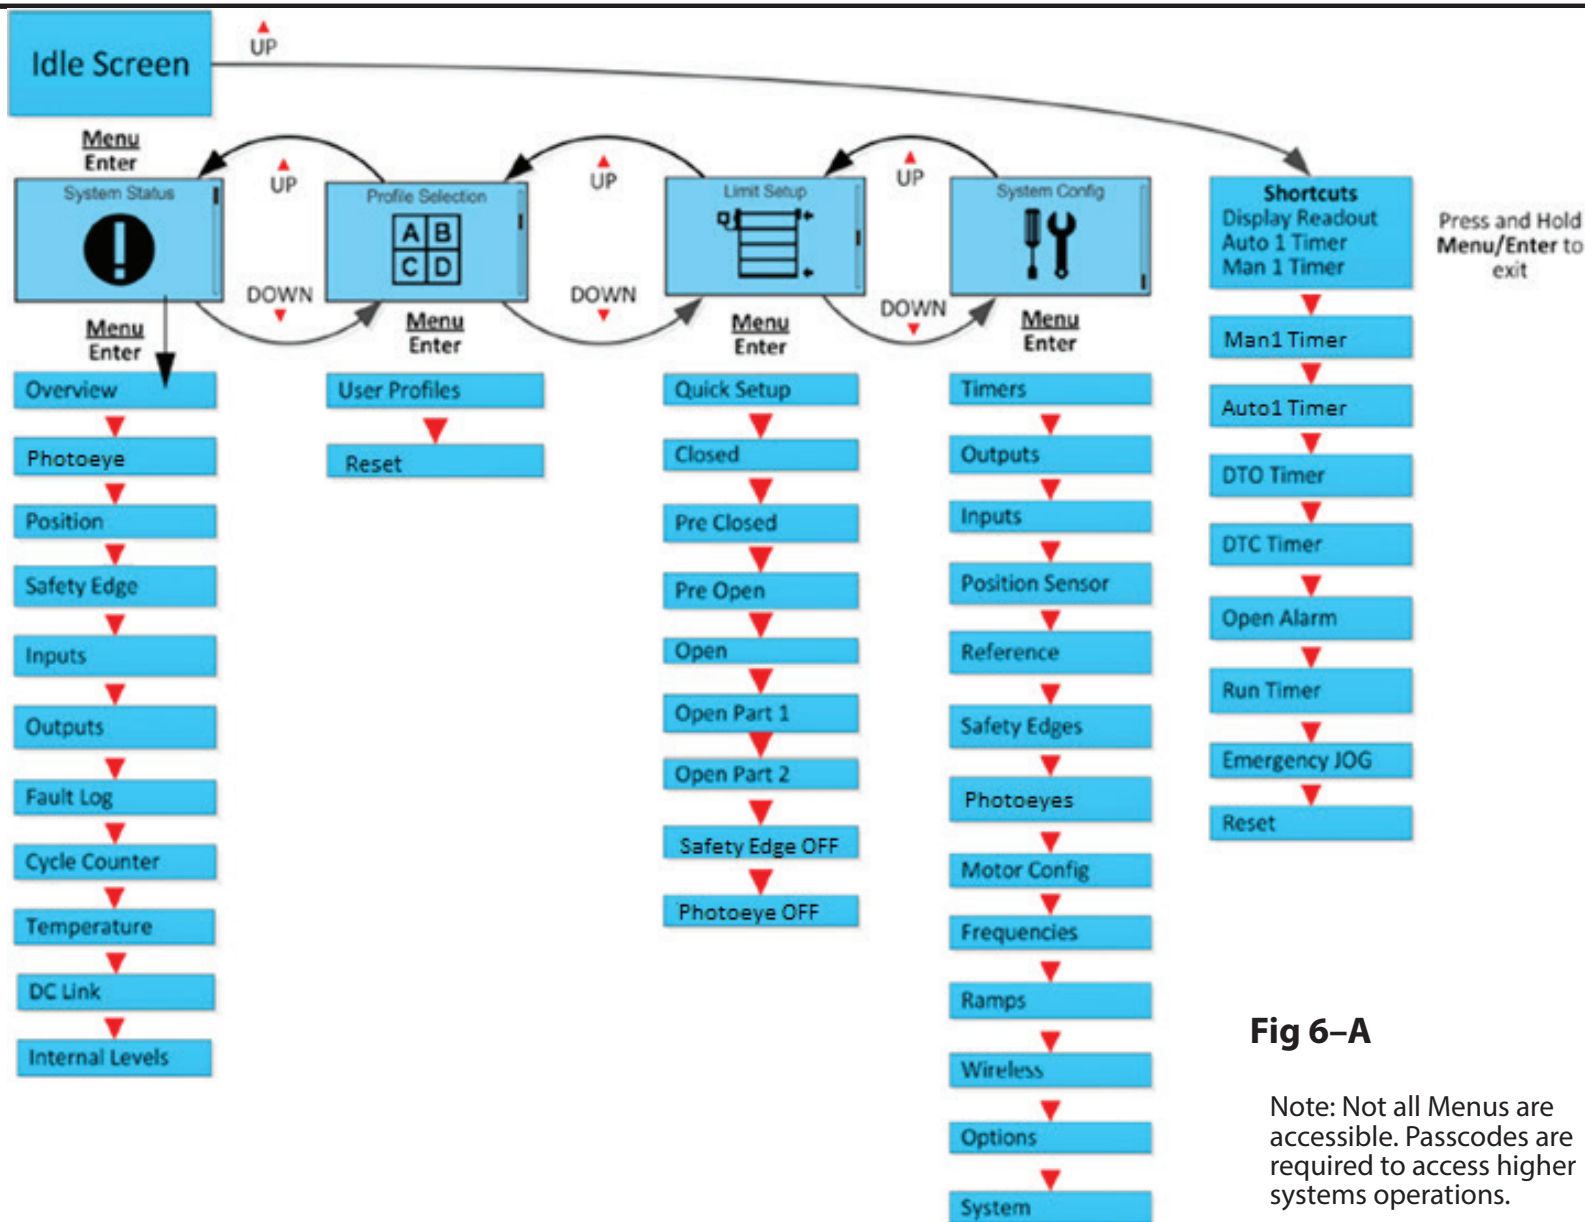

Fig 6-A
A. To enter the Menu, press and hold the OPEN, STOP, CLOSE membrane buttons for 3 seconds. A count down timer on the top left corner of the LED screen will display the remaining time left to hold. Refer to **Fig 6-A** for the complete menu structure.